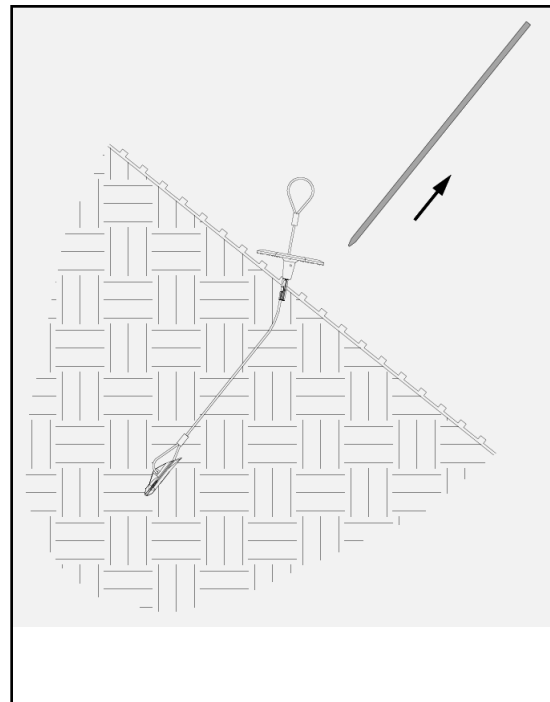

Figure 7: Remove Drive Steel from Ground
3. Remove the drive steel from the ground. (Figure 7) Depending on soil conditions, this may require the use of a setting tool or metal bar for leverage.